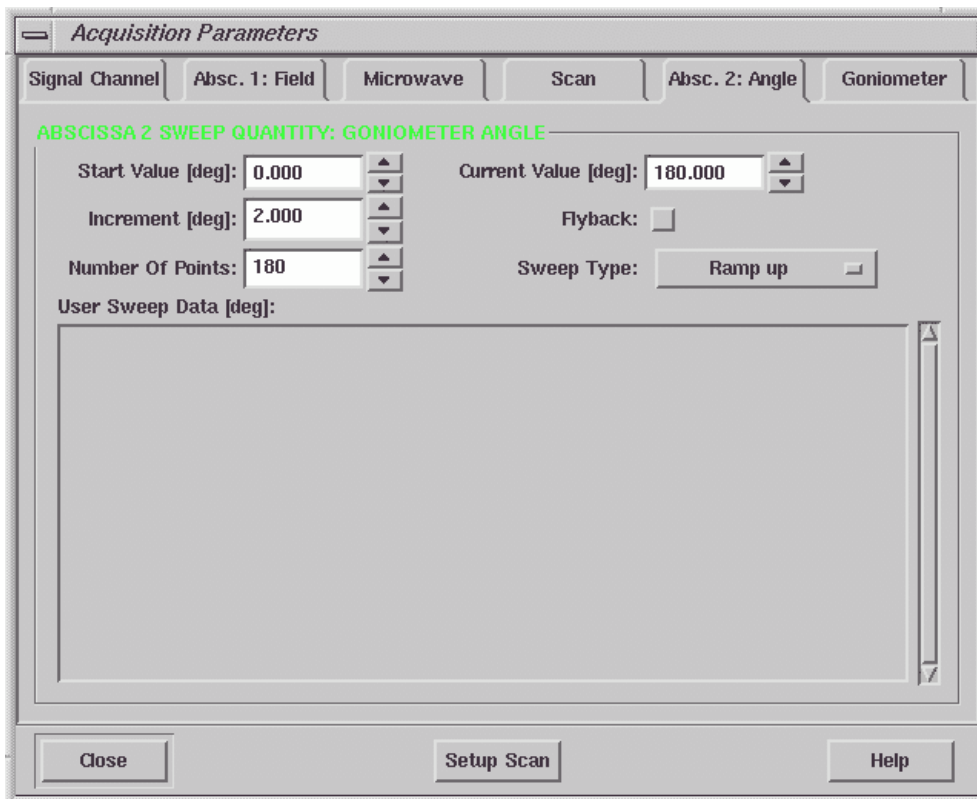

Figure 12-34 Setup for a 2D spectra using the programmable goniometer.
6. **Set up for a 2D experiment.** If you create a 2D experiment you can set the angle range and angle increment in the Absc. 2: Angle folder. (See Figure 12-34.)